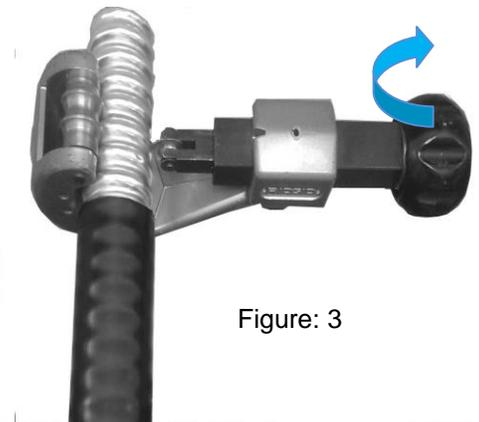

Figure: 3
- 5) Slowly spin tool around the cable while rotating the knob continue until the aluminum armor cut through. As shown in figure: 3, 3a